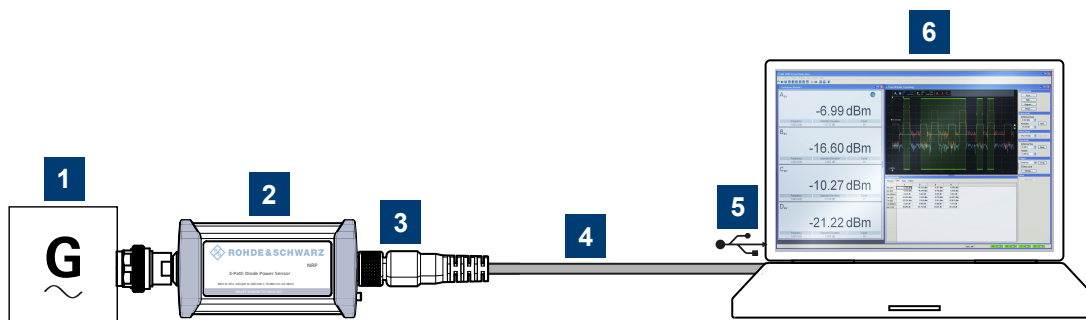

Figure 5-2: Setup with an R&S NRPV
2. Connect the power sensor to the computer as shown in Figure 5-2. For a detailed description, refer to Chapter 3.7.1.1, "Simple USB connection", on page 17.